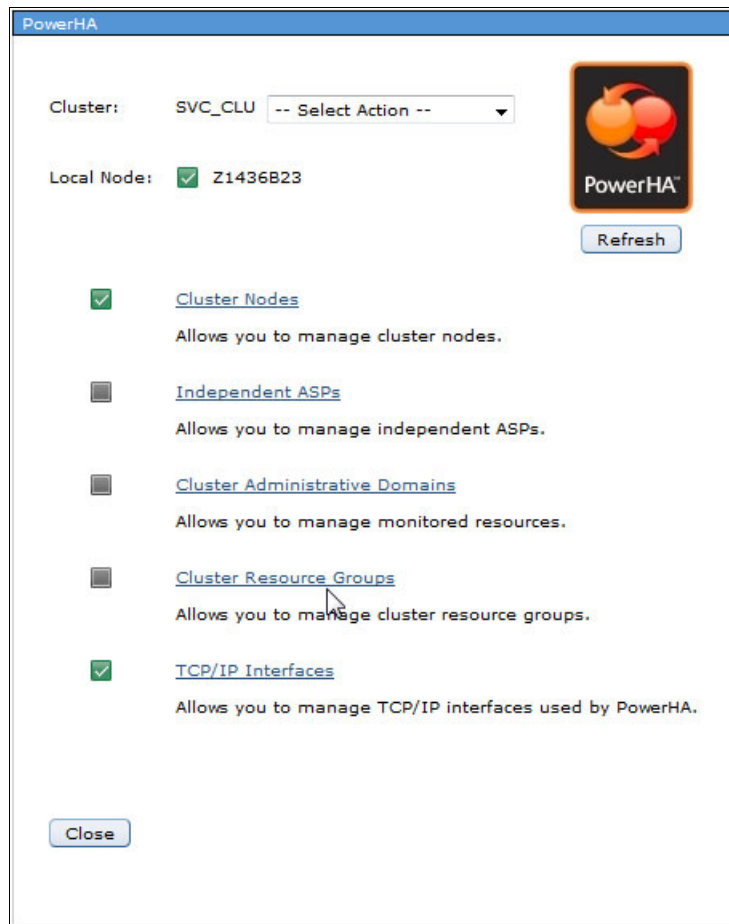

Figure 4-21 PowerHA main menu, selecting Cluster Resource Groups
18. Define the cluster resource group that is used to switch the IASP between the cluster nodes. From the main PowerHA window, click **Cluster Resource Group**, as shown in Figure 4-21.